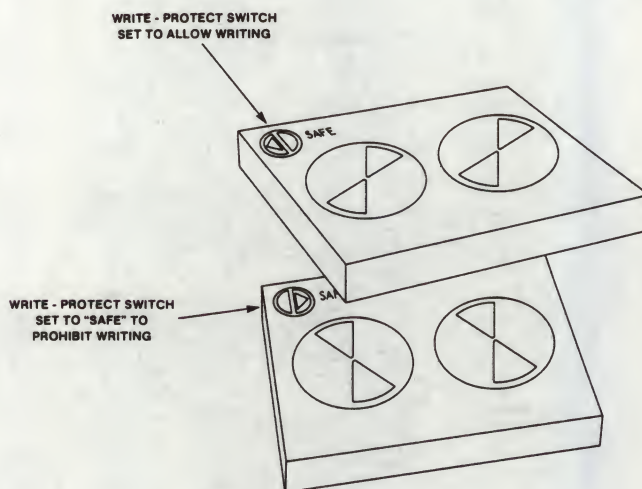

FIGURE E-2. Setting the Write-Protect Switch
3. To prohibit the writing of information onto the tape cartridge, set the write-protect switch arrow to SAFE (refer to Figure E-2.). To enable writing on the tape cartridge, set the write-protect switch with the arrow directly opposite the SAFE position.